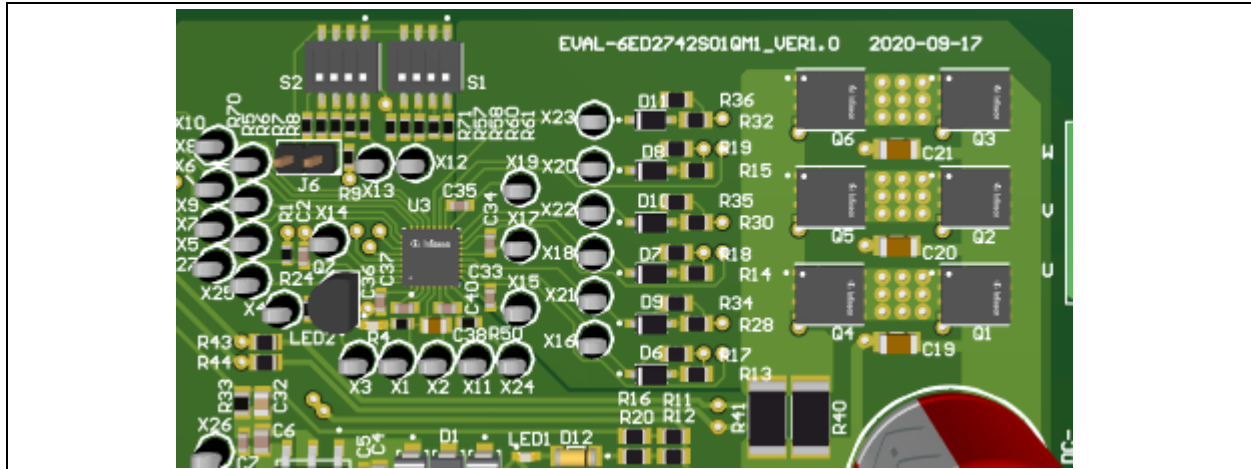

Figure 31 6ED2742S01Q and its surrounding components optimal placement
**Routing and Placement:** Power stage PCB parasitic elements can contribute to large negative voltage transients at the switch node; it is recommended to limit the phase voltage negative transients. See figure 31 for optimal placement of components. Ceramic capacitors close to the VCC, VIN, VREG, Charge pump and VB pins.